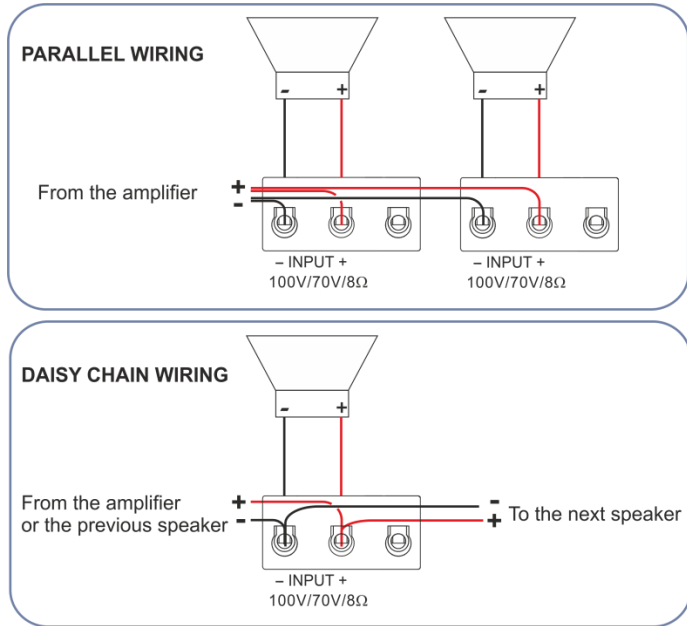

Figure 5: Galil 2-C Schematic Diagram
| Figure 5:  | Galil 2-C Schematic Diagram           | 9  |
6. Connect the cables to the speaker (see Figure 5 and Figure 4). Connect the positive (+) red cable to the + terminal and connect the negative (-) black cable to the – terminal.
- **Wiring in parallel:** when one input connector is removed, subsequent speakers will remain connected (see Figure 5)
- **Daisy-chaining:** when one input connector is removed, subsequent speakers will be disconnected (see Figure 5)